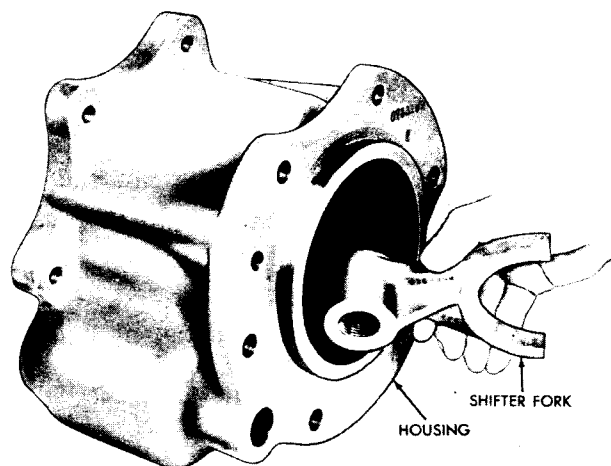

Fig. VI-38. Removing (or installing) shifter fork^{S2471}
(8) Remove the shifter fork from the housing (fig. VI-38).
c. Assembly (items 5 through 18, A, foldout 12)
(1) If oil seal 7 was removed from housing 5, press in a new seal. The seal is installed spring-loaded end first and pressed to seat lightly in the housing.
(2) Install the shifter fork in the housing (fig. VI-38).